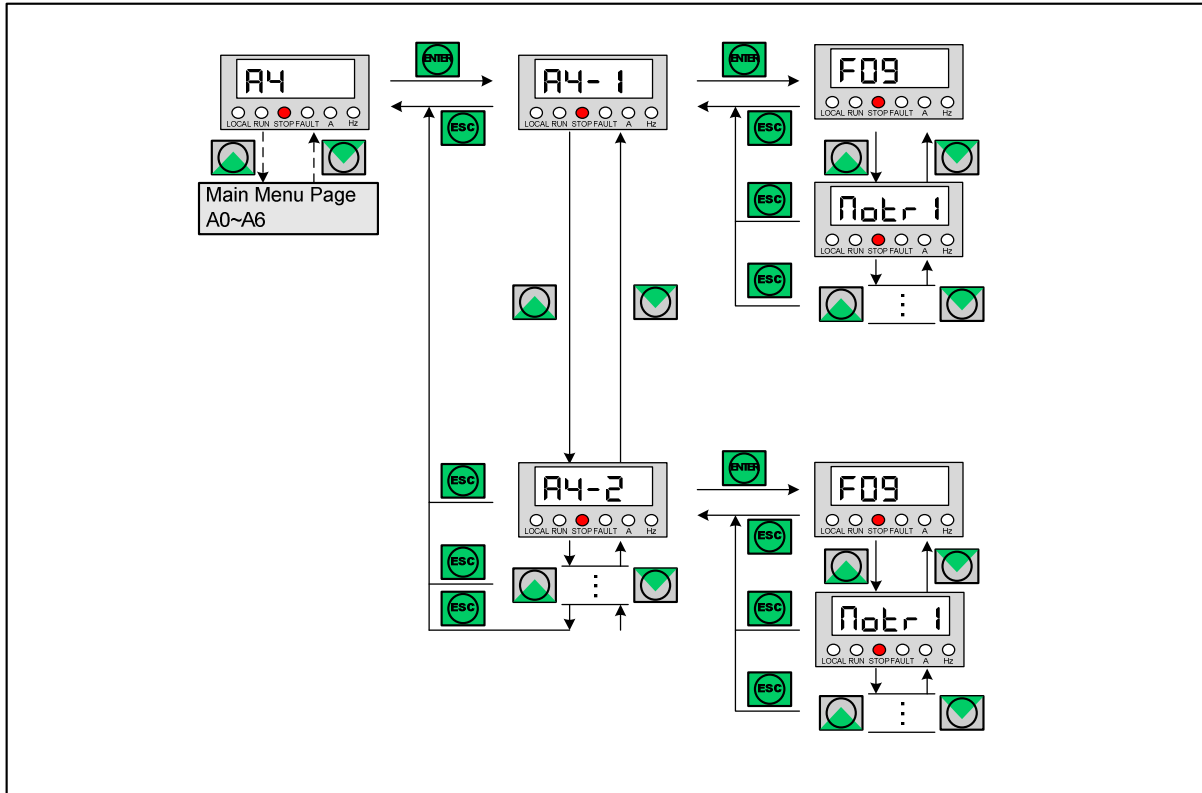

Figure 6.2-6 “[A4] Fault Record” Menu Page
[A4] Fault Record Page, users can monitor the number of Faults, Fault code and operation status when it occurs. Total 9 Faults can be saved from Record (1) to the latest occurred Fault. If Faults are occurred more than 9, the oldest Fault record is erased. Refer to Figure 6.2-6 for KEYPAD usage and the setting instruction.